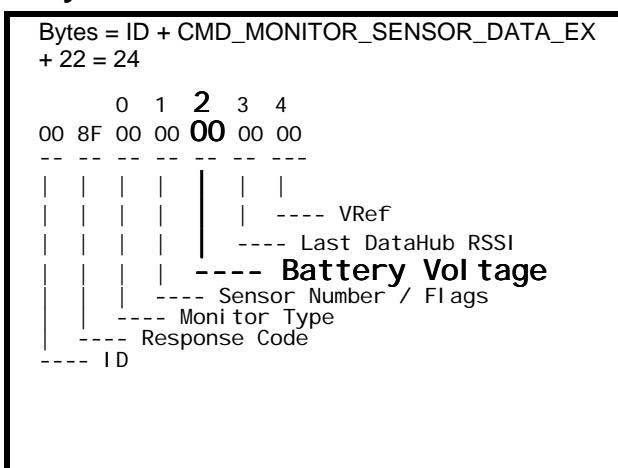

FIG. 12.1: Example Monitor Data Packet
12.2.2 Click on **Poll > Poll Monitor**. Fig. 12.1